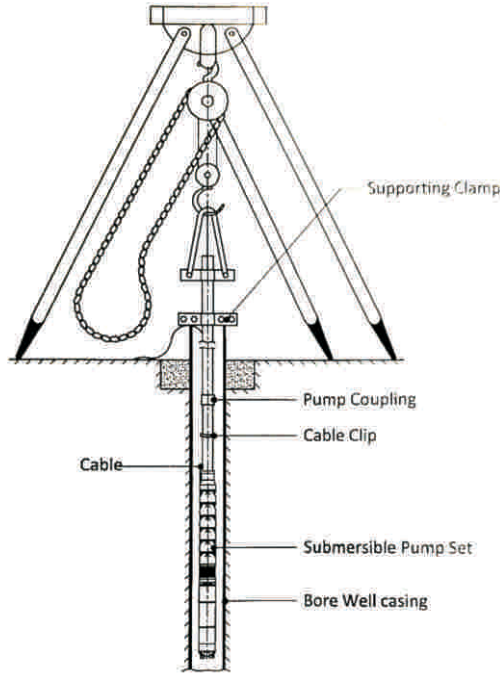

Fig. 7 TYPICAL TRIPOD STAND FOR LOWERING / LIFTING SUBMERSIBLE PUMP SETS
- Fit the supporting clamp to the delivery pipe and suspend the submersible pump from the chain block (Refer Fig. 7)